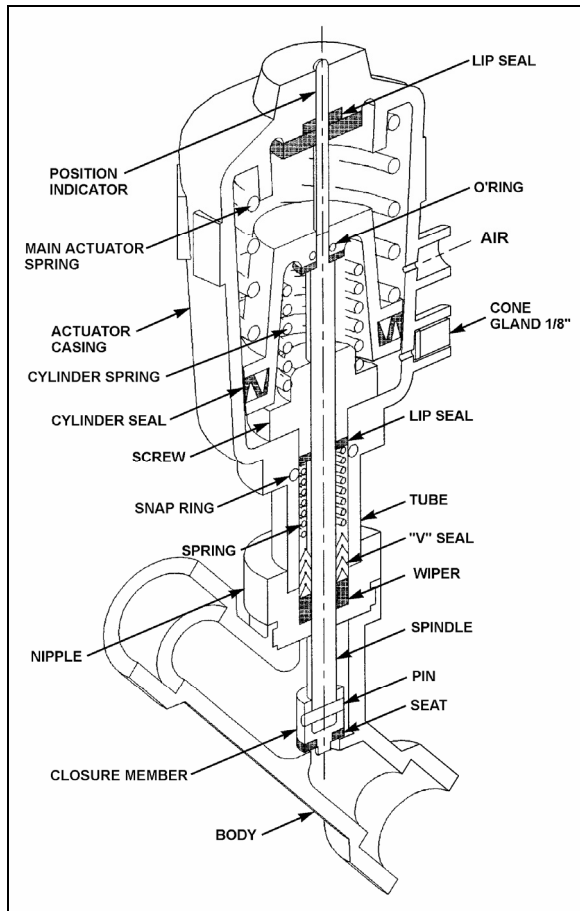

FIGURE 47: PNEUMATIC WATER VALVE
- The water valve need not be removed from the line. Unscrew nipple, the actuator casing, tube, spindle and closure member can be removed (Fig. 47).
- Tighten the nipple in place in the body cavity as per figure 47. Fasten pilot solenoid valve to the pneumatic water valve. Reconnect air supply pressure and electrical current to the pilot solenoid valve.